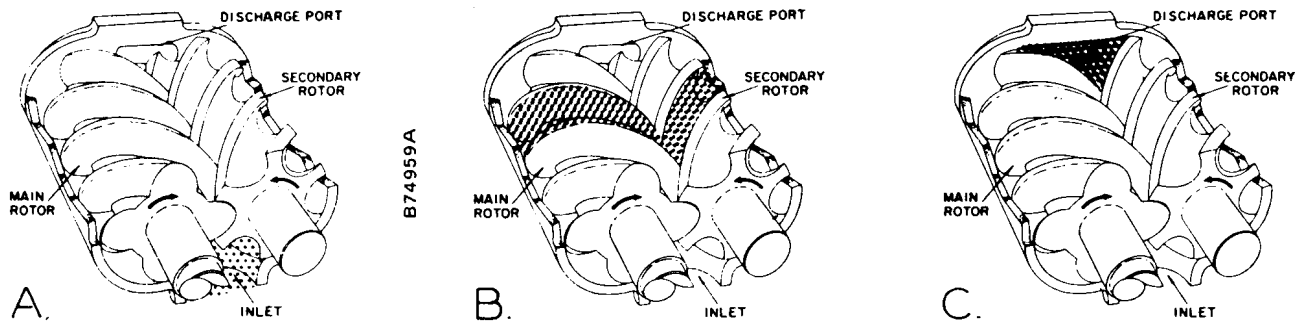

FIGURE 1-1 – COMPRESSION CYCLE
COMPRESSION PRINCIPLE (FIGURE 1-1) – Compression is accomplished by the main and secondary rotors synchronously meshing in a one-piece cylinder. The main rotor has four (4) helical lobes 90° apart. The secondary rotor has six (6) matching helical grooves 60° apart to allow meshing with main rotor lobes.
The air inlet port is located on top of the compressor cylinder near the drive shaft end. The discharge port is near the bottom at the opposite end of the compressor cylinder. *Figure 1-1 is an inverted view to show inlet and discharge ports.* The compression cycle begins as rotors unmesh at the inlet port and air is drawn into the cavity between the main rotor lobes and secondary rotor grooves (A). When the rotors pass the inlet port cut-off, air is trapped in the interlobe cavity and flows axially with the meshing rotors (B). As meshing continues, more of the main rotor lobe enters the secondary rotor groove, normal volume is reduced and pressure increases.